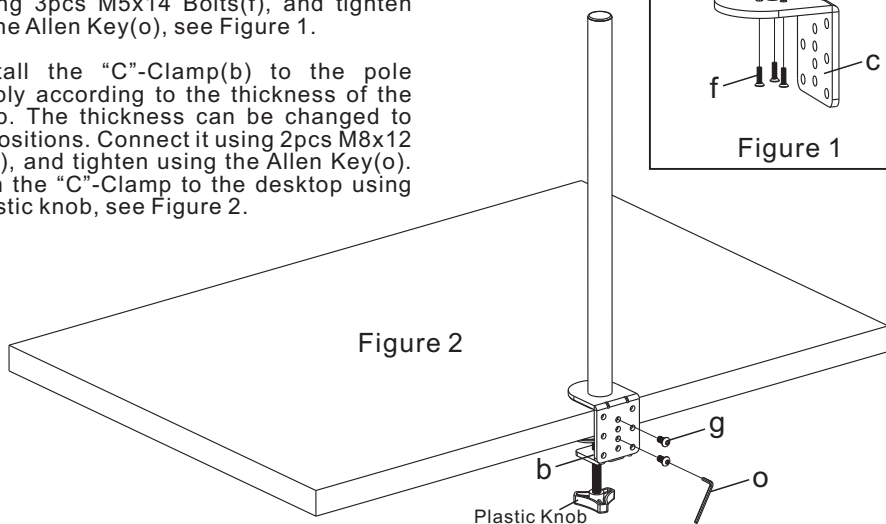

Figure 2
2. Install the "C"-Clamp(b) to the pole assembly according to the thickness of the desktop. The thickness can be changed to three positions. Connect it using 2pcs M8x12 Bolts(g), and tighten using the Allen Key(o). Tighten the "C"-Clamp to the desktop using the plastic knob, see Figure 2.